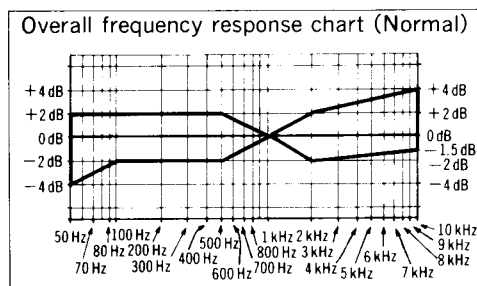

Fig. 12
G Overall frequency response Condition: - Record/playback mode - Normal tape mode - CrO₂ tape mode - Metal tape mode - Input level controls ... MAX - Output level control ... MAX Equipment: - VTVM - AF oscillator - ATT - Oscilloscope - Resistor (600 Ω) - Test tape (reference blank tape) ... QZZCRA for Normal ... QZZCRX for CrO₂ ... QZZCRZ for Metal	Note: Before measuring and adjusting, make sure of the playback frequency response (For the method of measurement, please refer to the playback frequency response). Overall frequency response adjustment by recording bias current (Recording equalizer is fixed) - Make connections as shown in fig. 13. - Place UNIT into normal tape mode and load the test tape (QZZCRA). - Input a 1 kHz, -24 dB signal through LINE IN. Place the set in record mode. - Fine adjust the attenuator to obtain 0.4 V LINE OUT output. - Make sure that the input signal level is -24 ± 4 dB with 0.4 V output voltage. - Adjust the attenuator to reduce the input signal level by 20 dB. - Adjust the AF oscillator to generate 50 Hz, 100 Hz, 200 Hz, 500 Hz, 1 kHz, 4 kHz, 8 kHz and 10 kHz signals, and record these signals on the test tape. - Playback the signals recorded in step 6, and check if the frequency response curve is within the limits shown in the overall frequency response chart for normal tapes (fig. 12). (If the curve is within the charted specifications, proceed to steps 8, 9, 10 and 11.) (If the curve is not within the charted specifications, adjust as follows;
Adjustment (A): When the curve exceeds the overall frequency response chart specifications (fig. 12) as shown in fig. 14.  Fig. 14 1) Increase bias current by turning VR9 (L-CH) and VR10 (R-CH). (See fig. 1 on page 5.) 2) Repeat steps 6 and 7 to confirm. (Proceed to steps 8, 9, 10 and 11 if the curve is now within the charted specifications in fig. 12.) 3) If the curve still exceeds the specifications (fig. 12), increase bias current further and repeat steps 6 and 7. Adjustment (B): When the curve falls below the overall frequency response chart specifications (fig. 12) as shown in fig. 15.  Fig. 15 1) Reduce bias current by turning VR9 (L-CH) and VR10 (R-CH). 2) Repeat steps 6 and 7 to confirm. (Proceed to steps 8, 9, 10 and 11 if the curve is now within the charted specifications in fig. 12.) 3) If the curve still falls below the charted specifications (fig. 12), reduce bias current further and repeat steps 6 and 7. Overall frequency response chart (CrO₂, Metal)  Fig. 16 8. Place UNIT into CrO₂ tape mode. 9. Change test tape to QZZCRX, and record 50Hz, 100Hz, 200Hz, 500Hz, 1kHz, 4kHz, 8kHz, 10kHz and 12.5kHz signals. Then, playback the signals and check if the curve is within the limits shown in the overall frequency response chart for CrO₂ tapes (fig. 16). 10. Place UNIT into metal tape mode change test tape to QZZCRZ, and record 50Hz, 100Hz, 200Hz, 500Hz, 1kHz, 4kHz, 8kHz, 10kHz and 12.5kHz signals. Then, playback the signals and check if the curve is within the limits shown in the overall frequency response chart for metal tapes (fig. 16). 11. Confirm that bias currents are approximately as follows when the UNIT is set at different tape mode. * Read voltage on VTVM and calculate bias current by following formula: $\text{Bias current (A)} = \frac{\text{Value read on VTVM (V)}}{10 (\Omega)}$ Standard value: around 340 μA (Normal position) around 440 μA (CrO₂ position) around 710 μA (Metal position) } : measured at TP1 (L-CH) and TP2 (R-CH)